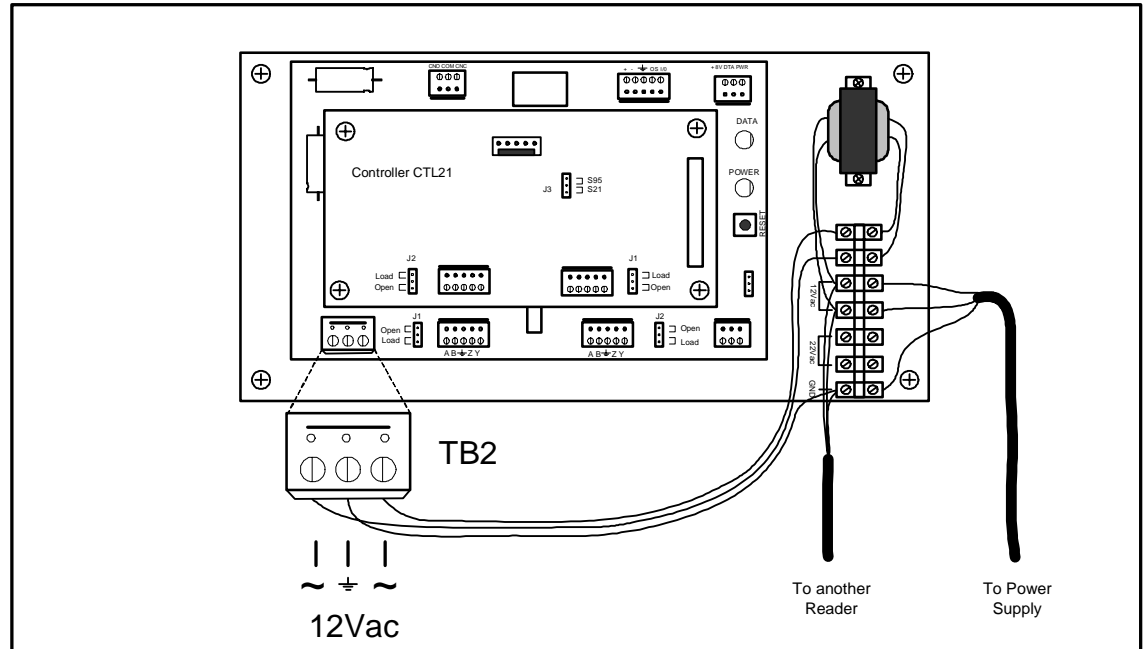

Figure 2-5: Multiple Readers per Power Supply Connection.
For this installation an isolation transformer is not required. However, if it is installed, the equipment still can be used in a one Reader per power supply configuration but it should be connected as if it is a part of a multiple Readers per power supply configuration (see Figure 2-5).
To connect the power supply to Reader RD21, refer to Figure 2-5 and complete the following steps:
3. Connect the power wires to the input of the transformer using terminal block pins marked 12Vac as shown in the Figure 2-5.
4. Connect the output of the transformer to TB2 pins marked "~" using the terminal block as shown in Figure 2-5.
5. Run the main ground connection to TB2 using terminal block pin marked GND as shown in Figure 2-5.